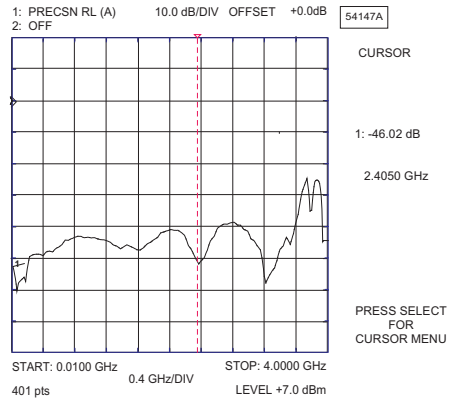

Figure 7. Direct Readout of the Precision Return Loss
22. Observe that the waveform displayed resembles that shown in Figure 7.